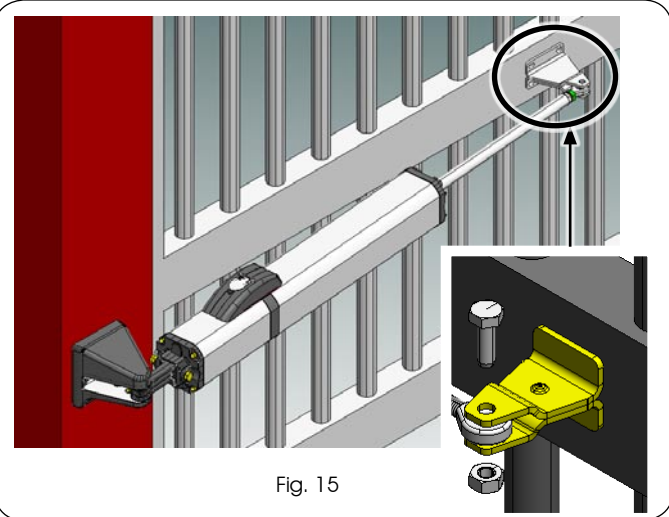

Fig. 15
15. Secure the operator to the front fixing (Fig. 15).